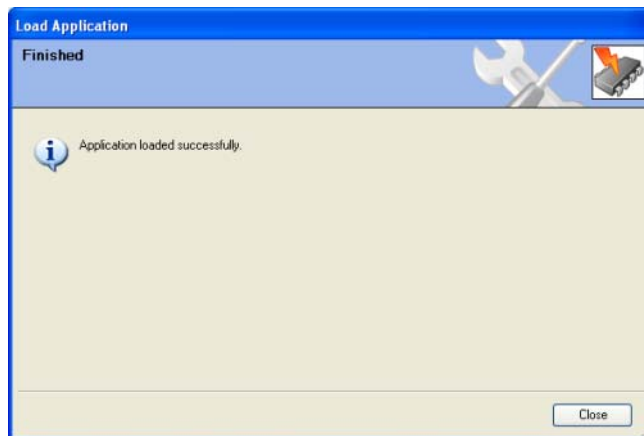

Figure 5-12. Final Screen
17. The converted setting will be loaded into the control. Wait until all settings are saved. The last screen will show the message "Application loaded successfully" (Figure 5-12). Click Close.